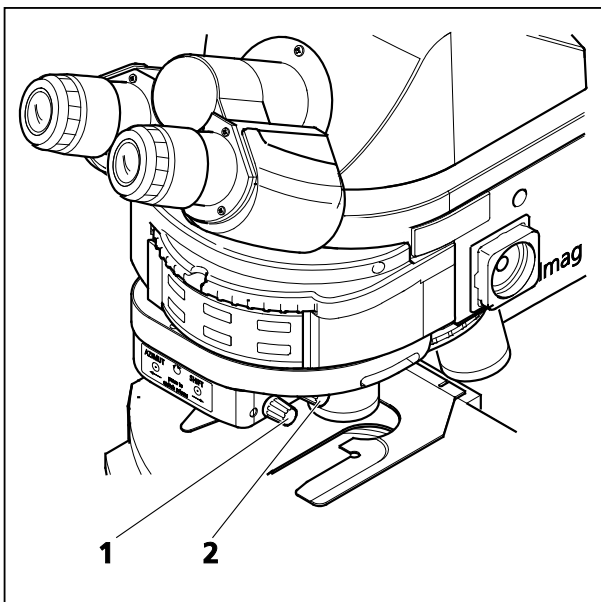

Fig. 208 Motorized four-position modulator turret for circular DIC/TIC
(5) Setting the reflected light DIC with motorized four-position modulator turret for circular DIC/TIC
- On the modulator turret, swivel in the appropriate DIC prism by **pressing** button (Fig. 208/1) for forward rotation or on button (Fig. 208/2) for backward rotation of the turret.
- Place the specimen on the stage, bring it into focus and turn knob (Fig. 208/2 **SHIFT**) so that the structure of interest can be seen in maximum contrast.
- The contrast can be optimized by turning knob (Fig. 208/1 - **AZIMUTH**) on the modulator turret.